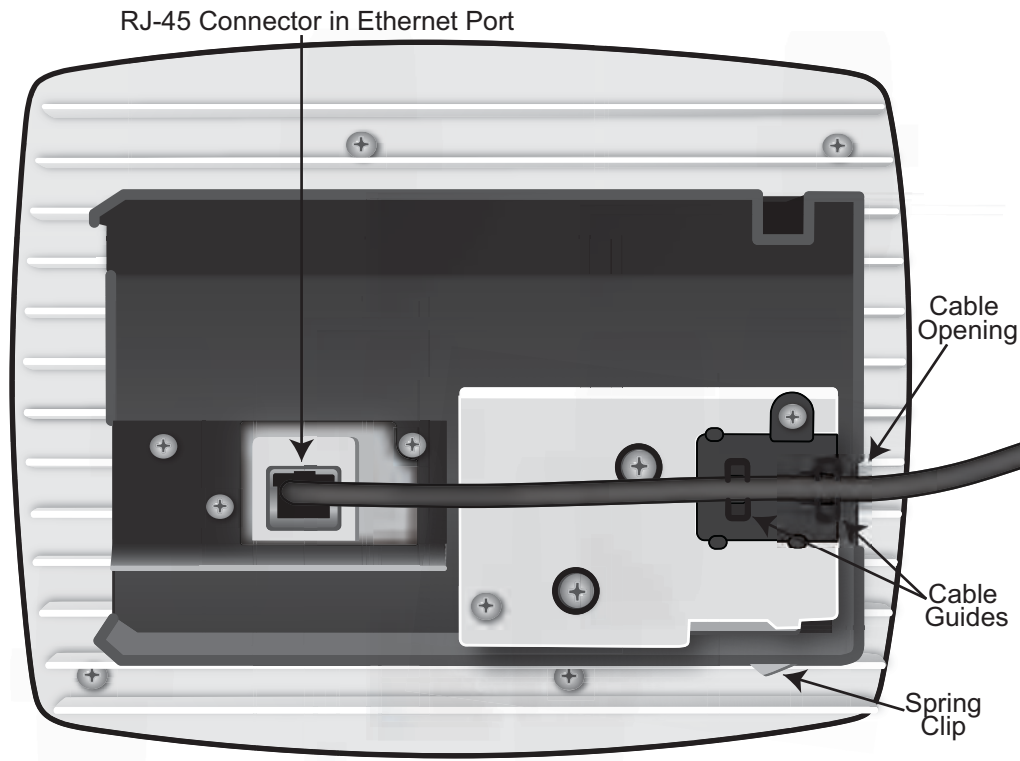

Figure 11 Route and Terminate the Cable
Step 2 Insert the RJ-45 connector into the Ethernet port as shown in Figure 13. Route the Ethernet cable through the cable guides and pedestal base cable opening and through the cable guides as shown in Figure 11: